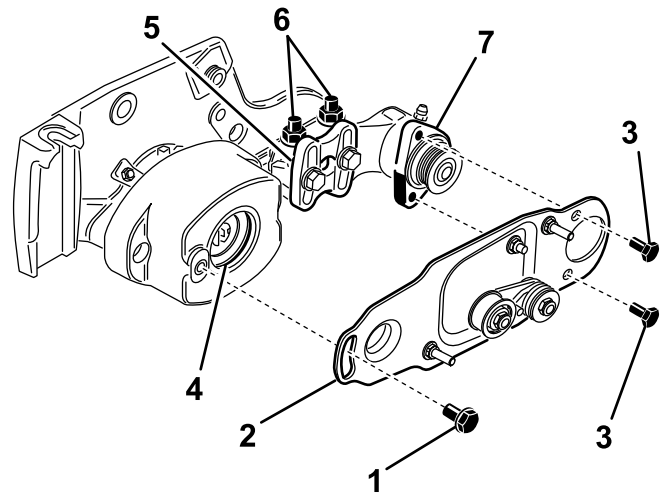

Figure 11
11. Loosen but do not remove the bolts securing the roller brush bearing housing to the roller brush mounting bracket (Figure 11).
12. Install the roller brush pivot plate (Figure 11). Ensure that the grommet stays properly seated in the housing when the protrusion on the pivot plate is inserted into the grommet in the bearing housing.
13. Apply 242 Loctite (blue) to the 2 bolts (5/16 x 5/8 inch) and use them to mount the brush plate to the roller brush bearing housing (Figure 11). Torque the bolts to 20 to 25 N-m (15 to 19 ft-lb).
- Loosen the 2 flange locknuts securing the roller brush mounting bracket to the cutting unit side plate (Figure 11).
- Rotate the roller brush bearing housing until the brush plate is parallel to the cutting unit side plate (Figure 11).
- Tighten the 2 flange locknuts securing the roller brush mounting bracket to the cutting unit side plate (Figure 11).
18. Apply 242 Loctite (blue) to the shoulder bolt (Figure 11). Secure the brush plate to the roller brush housing with the shoulder bolt. (Figure 11). Torque the bolt to 20 to 25 N-m (15 to 19 ft-lb).